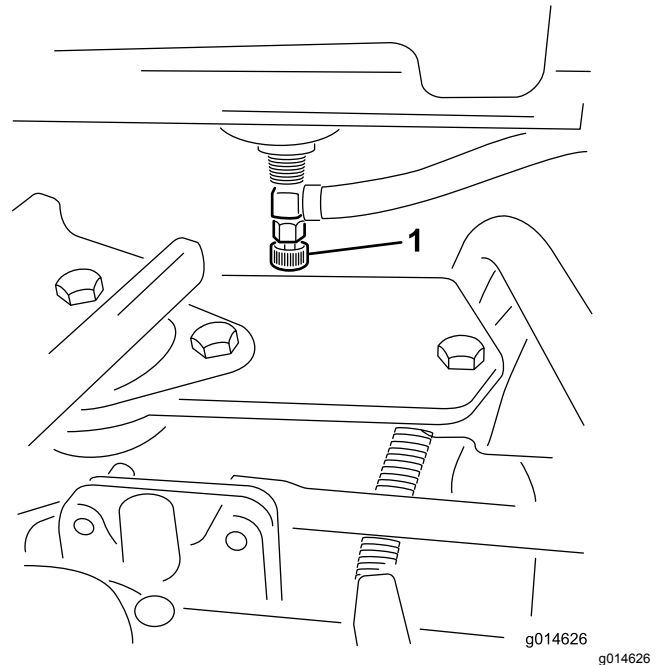

Figure 29
1. Close the fuel-shutoff valve (Figure 29) below the fuel tank.